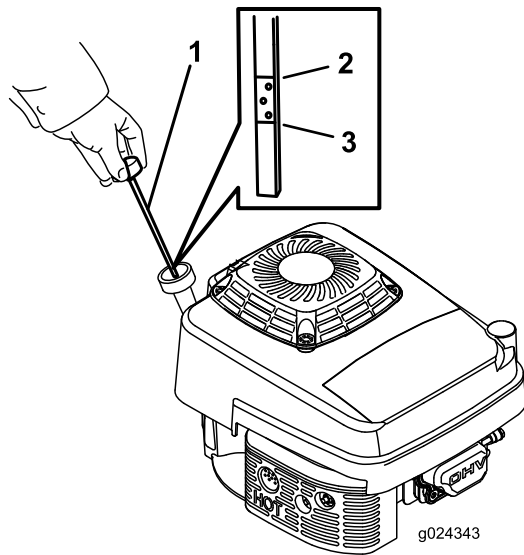

Figure 12
2. Remove the dipstick by rotating the cap counterclockwise and pulling it out (Figure 12).
5. Read the oil level on the dipstick (Figure 12).
- If the oil level on the dipstick is too low (Figure 12), carefully pour a small amount of SAE 30 or SAE 10W-30 detergent oil into the oil-fill tube, wait 3 minutes, and repeat steps 3 through 5 until the oil on the dipstick is at the correct level.
- If the oil level on the dipstick is too high (Figure 12), drain the excess oil until the oil on the dipstick is at the correct level; refer to Changing the Engine Oil (page 19).